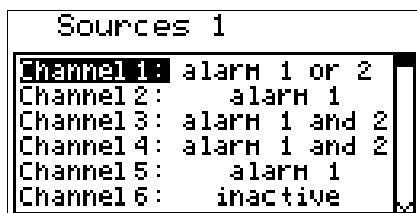

Fig. 7.25. Submenu "Source" in menu „Outputs settings“.
**"Source"** - brings up a submenu with alarm sources settings (**Fig. 7.25**). The following options are available for each channel: